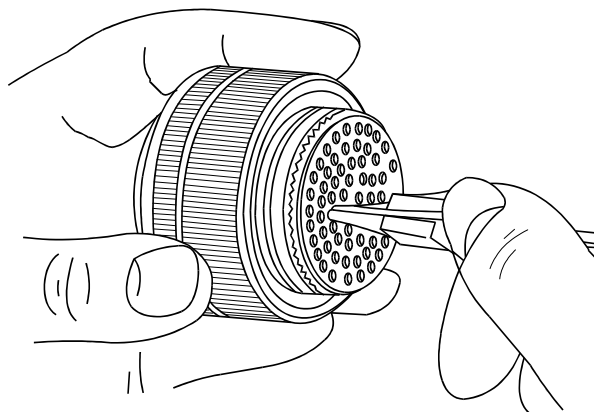

Figure 10-28 Broken Wire Contact Removal
- a. Using the insertion removal tool, insert the white tip 3.0 mm into rear of connector as shown in Figure 10-28.